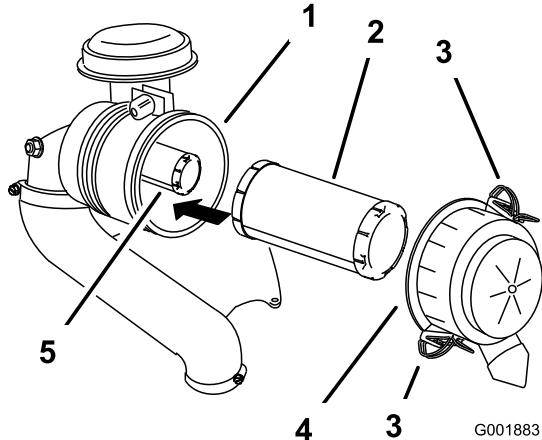

Figure 46
6. Release the latches on the air cleaner and pull the air cleaner cover off the air cleaner body (Figure 46).
- Gently slide the primary filter out of the air cleaner body (Figure 46).
- If the inner filter is being replaced, carefully slide it into the filter body (Figure 46).
- Carefully slide the primary filter over the inner filter (Figure 46).
- Install the air cleaner cover and secure the latches (Figure 46).